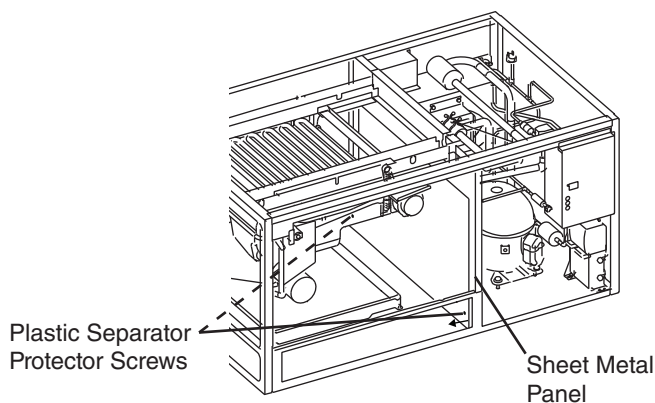

**Fig. 5a**
- 13) Remove and discard the upper bin control assembly (bin control switch and bin control mounting bracket) and thumbscrews. Remove the cube guide and thumbscrews. Discard the upper cube guide. Retain one of the thumbscrews for use later in these instructions. See Fig. 5a.